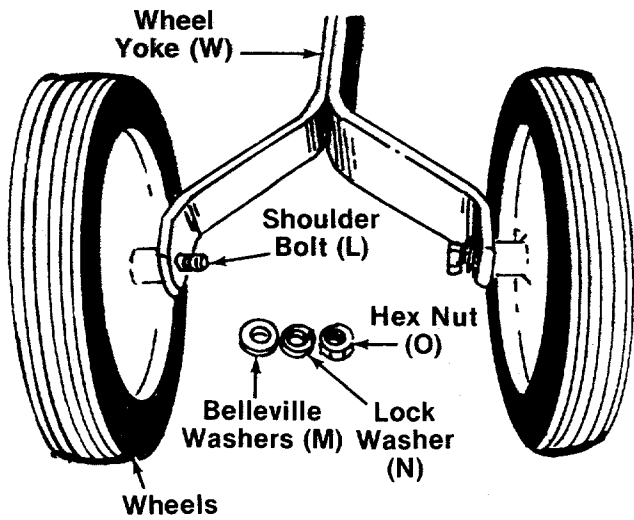

FIGURE 5.
5. Assemble wheels (T) to wheel yoke (W) with shoulder bolts (L), belleville washers (M) (cupped side of washer is against the wheel yoke), lock washers (N) and hex nuts (O) as shown in figure 5. A 3/4" wrench and an adjustable wrench is required.